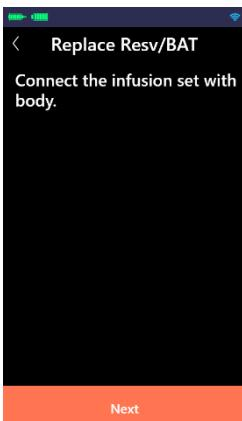

Figure A.2.22
(4) Connect the infusion set with the body (as shown in Figure A.2.22). When it is completed, click "Next".